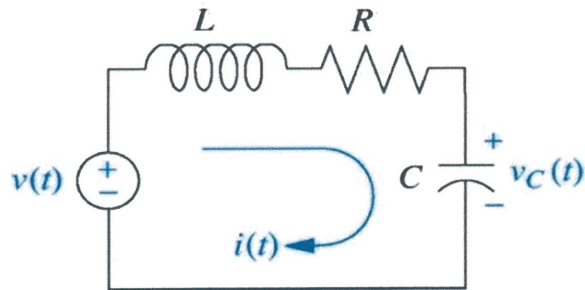

FIGURE Q2(a)
- Q2** (a) **FIGURE Q2(a)** shows an electrical network consisting of resistors (R), an inductor (L) and a capacitor (C). $v(t)$ is the input voltage and $v_c(t)$ is the voltage across the capacitor. Derive the transfer function $G(s)=V_c(s)/V(s)$, of the system. (6 marks)
- (b) The electrical network in **FIGURE Q2(a)** is used in a closed-loop system as shown in **FIGURE Q2(b)**, where $X(s)$ is the input and $Y(s)$ is the output of the system. Determine the transfer function of the system with $R=1\Omega$, $L = 2H$ and $C = 1F$. $G(s)$ is the same as that in part (a). (5 marks)